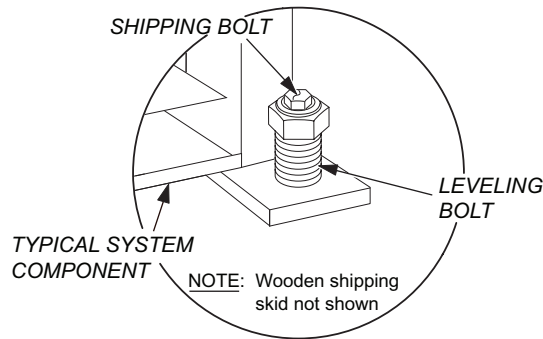

Figure 9 Removal of Typical Shipping Bolt
1. Unbolt each component from its shipping skid or block using a $\frac{3}{4}$ -inch socket (see Figure 9).